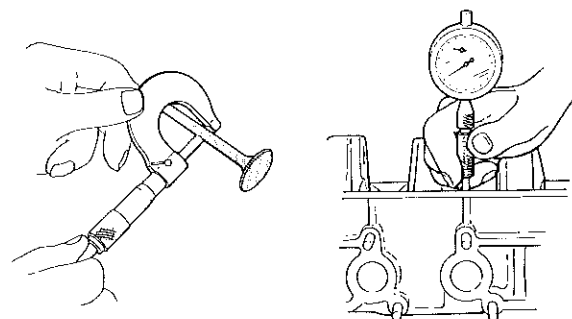
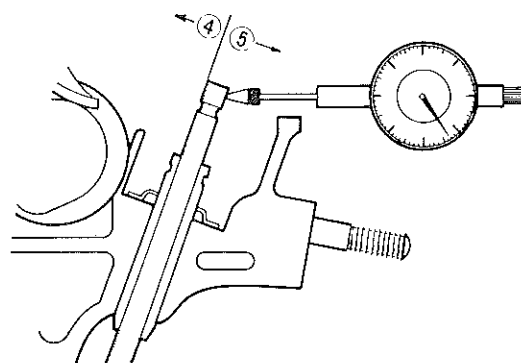

Fig. 4-57
Fig. 4-58
- Using a micrometer and bore gauge, take diameter readings on valve stems and guides to determine the stem clearance in the guide. Be sure to take a reading at more than one place along the length of each stem and guide, as shown in Fig. 4-57.
If the bore gauge like the one shown in Fig. 4-57 is not available, check the end deflection of the valve stem in place with a dial gauge rigged as shown in Fig. 4-58. Move the stem end in the directions ④ ⑤ and determine whether replacement is necessary or not, by referring to these limiting values: